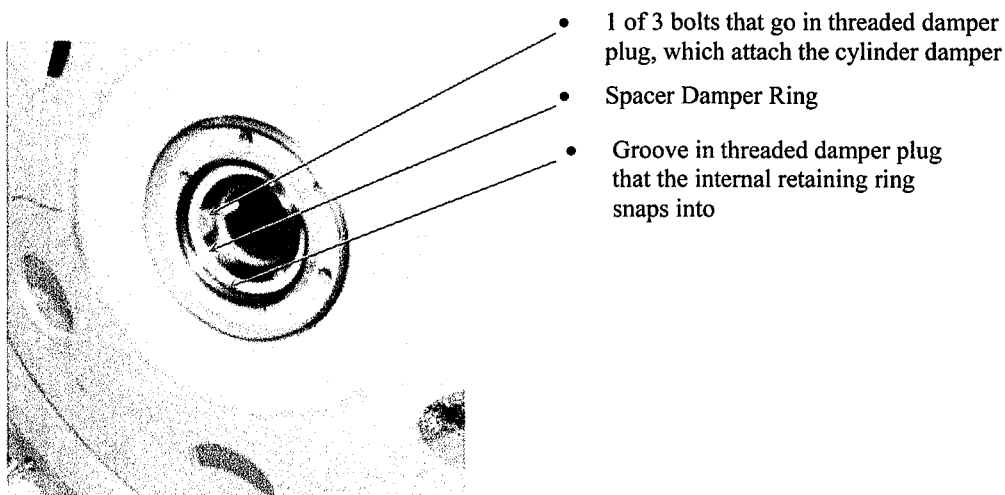

Figure 7 - Forward Side of Damper Diaphragm
- b. Place the three machine bolts (Item 34) into the holes of the threaded damper plug (Item 33). Insert the spacer damper ring (Item 32) and the internal retaining ring (Item 31), which must be compressed in order to place into groove of threaded damper plug. (*See Figures 7 and 8*)